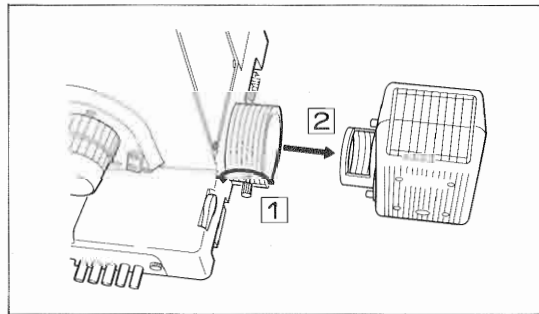

Fig. 13
- (1) Assure the microscope base sub-switch is turned OFF.
- (2) Loosen the lamphouse mount clamp screw [1], and remove the lamphouse from the mount [2]. (Fig. 13)